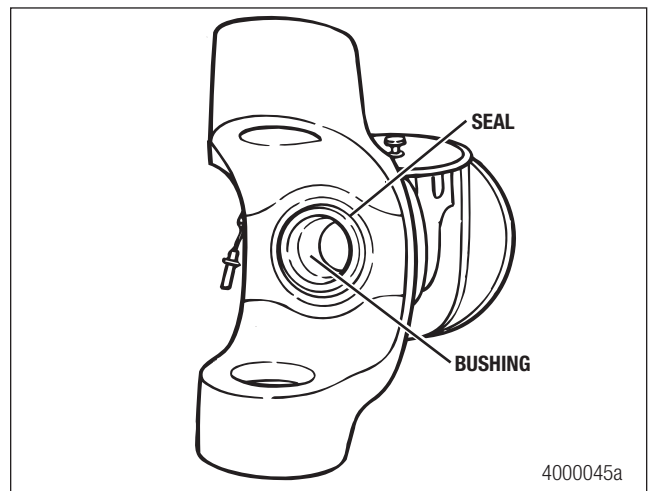

Figure 4.28
2. Inspect the oil seal and bushing in the axle housing for wear or damage and replace if necessary. If the bushing must be replaced, install a new oil seal at the same time. Figure 4.28.